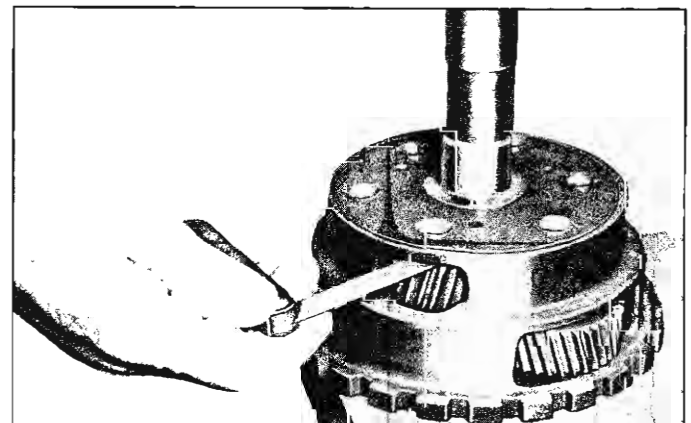

Fig. 28—Checking Planet Gear End Clearance
3. Check end clearance of planet gears. This clearance should be .006"-.030" (fig. 28).
23. Check end clearance of planet gears. This clearance should be .006"-.030" (fig. 28).